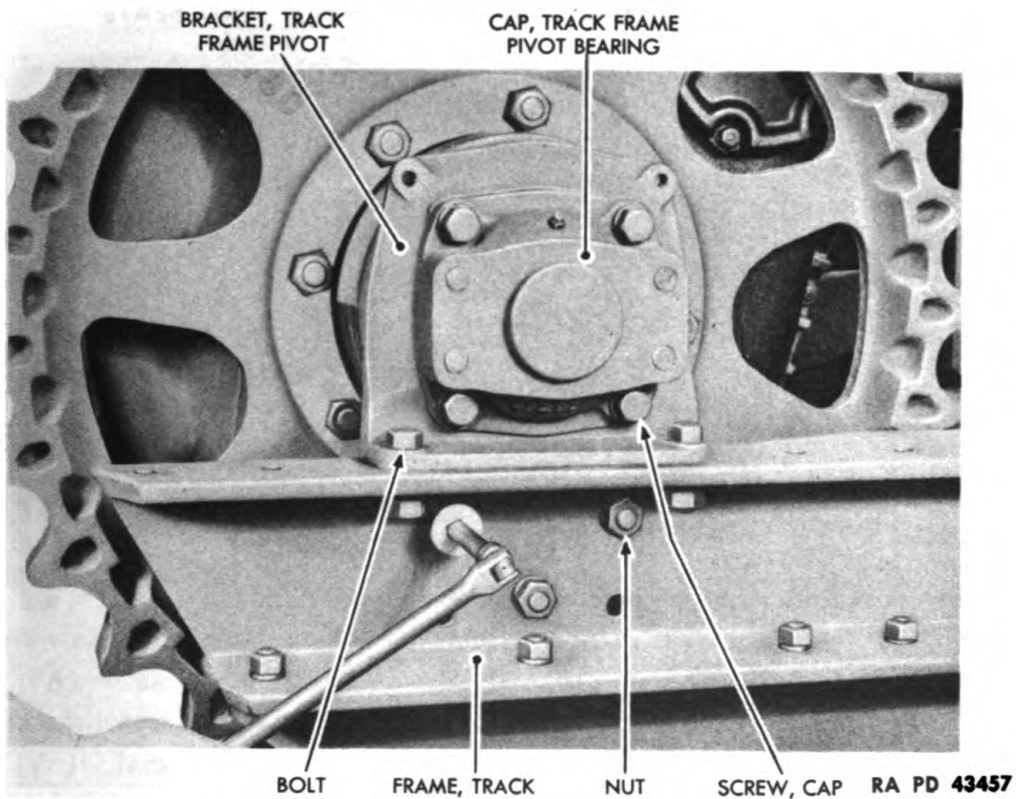

Figure 183 — Disconnecting Track Frame Pivot Bracket from Track Frame
- (5) DISCONNECT TRACK FRAME PIVOT BRACKET FROM TRACK FRAME (fig. 183).